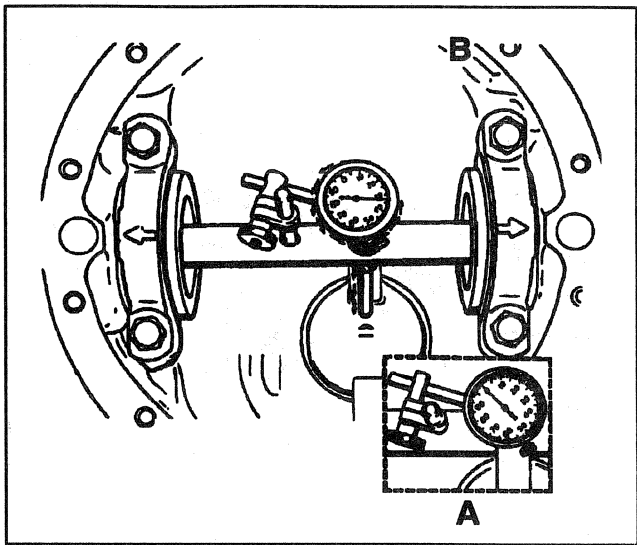

Figure 14—Checking Pinion Depth
12. Set the dial indicator at zero. Push the indicator down on the indicator shaft until the needle rotates approximately 3/4 of a turn to the right. Tighten the dial indicator in this position (Figure 14).
EXAMPLE: If the indicator needle moved counterclockwise 1.70 mm (0.067 inch) to a dial reading of 0.84 mm (0.033 inch) as shown in Figure 14, record the dial reading of 0.84 mm (0.033 inch), not 1.70 mm (0.067 inch).